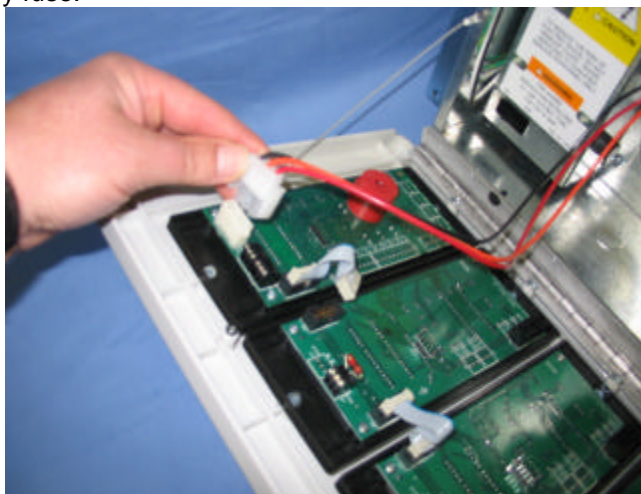

Figure 15 – Christmas tree plug installation
- 4.4.2 Using the pre-assembled Christmas tree plugs located on the hinge, gently install the plugs into the back box holes, (2) which do not contain threaded inserts (See Figure 15). These plugs are used as a temporary holding device to aid assembly in the field.